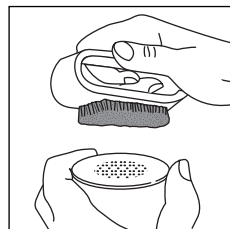
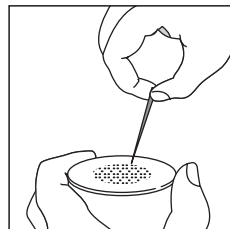

fig. 28
fig. 29
- Rinse all components and clean the metal filter thoroughly in hot water using a brush (fig. 28). Make sure the holes in the metal filter are not blocked. If necessary, clean with a pin (see fig. 29) or, preferably, by burning the particles obstructing the holes over a flame (TAKE CARE TO AVOID BURNS).
- Clean the outlet thoroughly in hot water using a brush. Make sure the holes are not blocked. If necessary, clean with a pin (fig. 29).